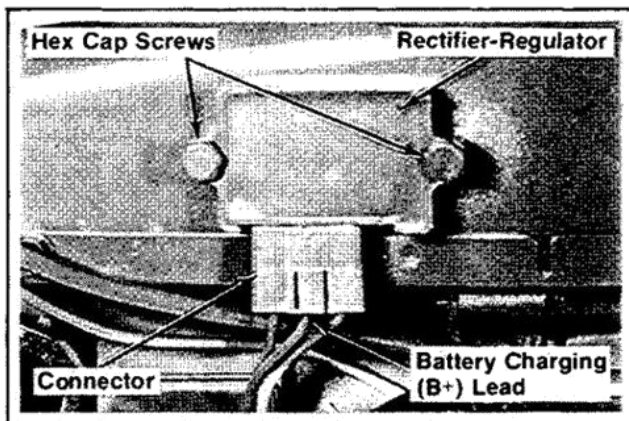

Figure 9-10. Removing Rectifier-Regulator.
2. Remove the hex cap screws and rectifier-regulator from blower housing. Refer to Figure 9-10.